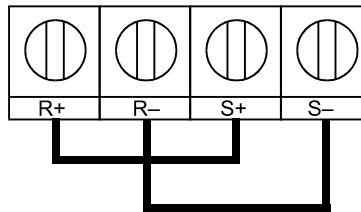

Figure D.3 RS-485 Communication Connection
3. When using RS-485 communication, connect S+ to R+, and S- to R-, on the control circuit terminal board. See **Figure D.3** below.